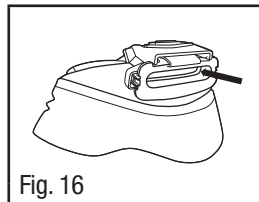

Fig. 16
**Cartridge/filter connection:** Examine connection area (Fig. 16) for distortion or dirt/particulate that could prevent filters/cartridges from sealing to the respirator.
**Speaking diaphragm (SD):** If SD version of the facepiece is used, ensure the seal surrounding the speaking diaphragm is in place and is in good condition. Ensure it is properly inserted in the facepiece, and ensure the speaking diaphragm film is intact.
3. Ensure the cartridge/filter connection area is free of debris (Fig. 16). Use a cloth or soft brush to reach this area and/or move facepiece back and forth quickly while immersed in cleaning solution.